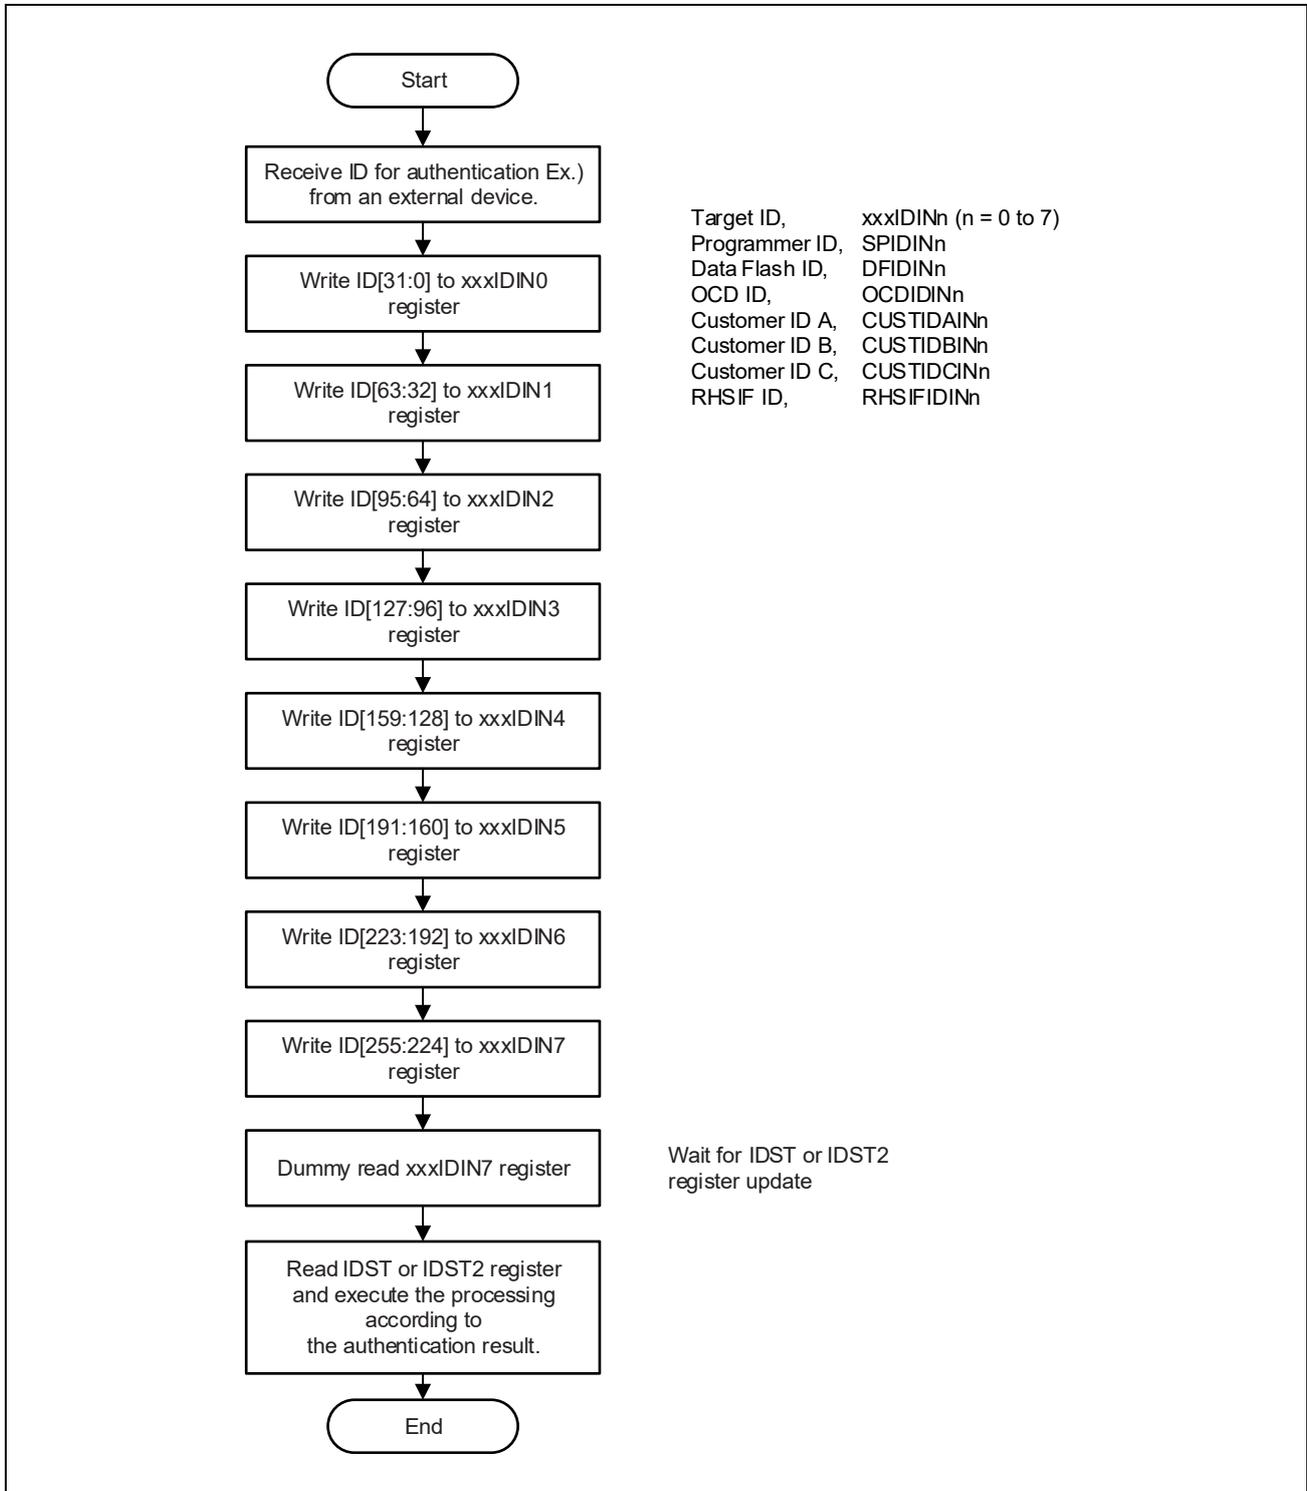

Figure 6.6 Flow of ID Authentication
**Figure 6.6** shows the each ID compare method, and how the compare result is checked by IDST or IDST2.